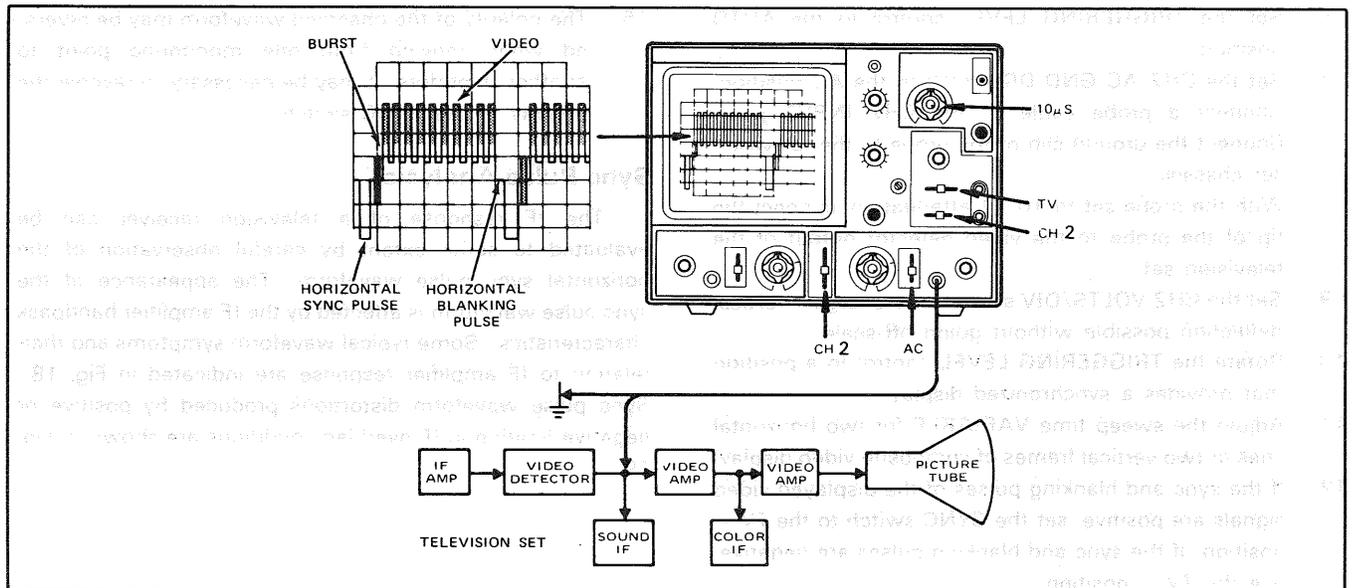

Fig. 16. Set-up for viewing horizontal fields of composite video signal
2. The method shown in Fig. 16 is used to obtain Field 2 vertical signal on CH1.